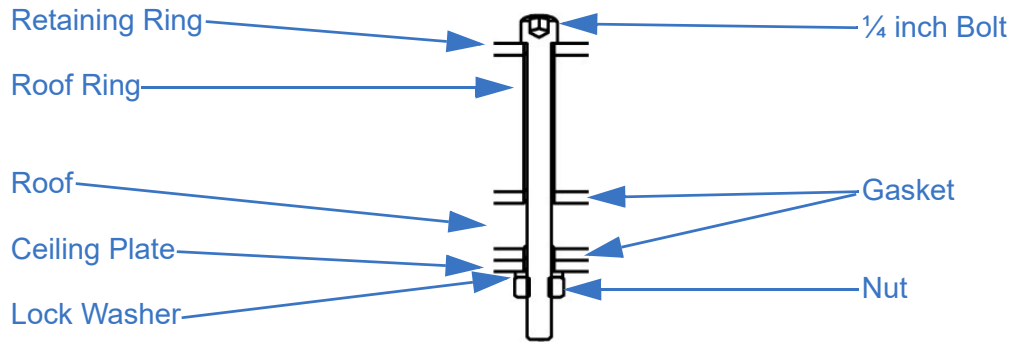

Figure 5-10 Fasten Assembly Together
5. Fasten this assembly (Figure 5-10) together using:
- a. (8) ¼ Inch (M6) Bolts
- b. (8) ¼ Inch Lock Washers
- c. (8) ¼ Inch Nuts